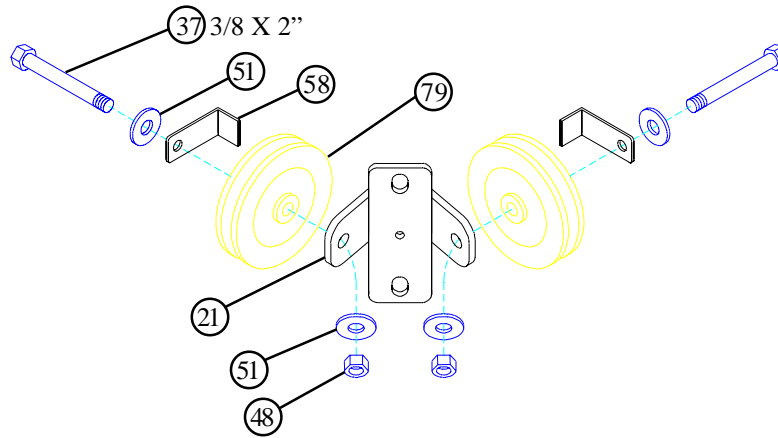

FIGURE 18
- Loosely assemble two 3-1/2" PULLEYS (79) and two 2-3/8" CABLE RETAINING CLIPS (58) to the CENTER PULLEY BRACKET (21) using two 3/8 X 2" BOLTS (37), four 3/8" WASHERS (51), and two 3/8" LOCKNUTS (48). See FIGURE 18. (NOTE: This connection will be tightened after the cable has been routed.)